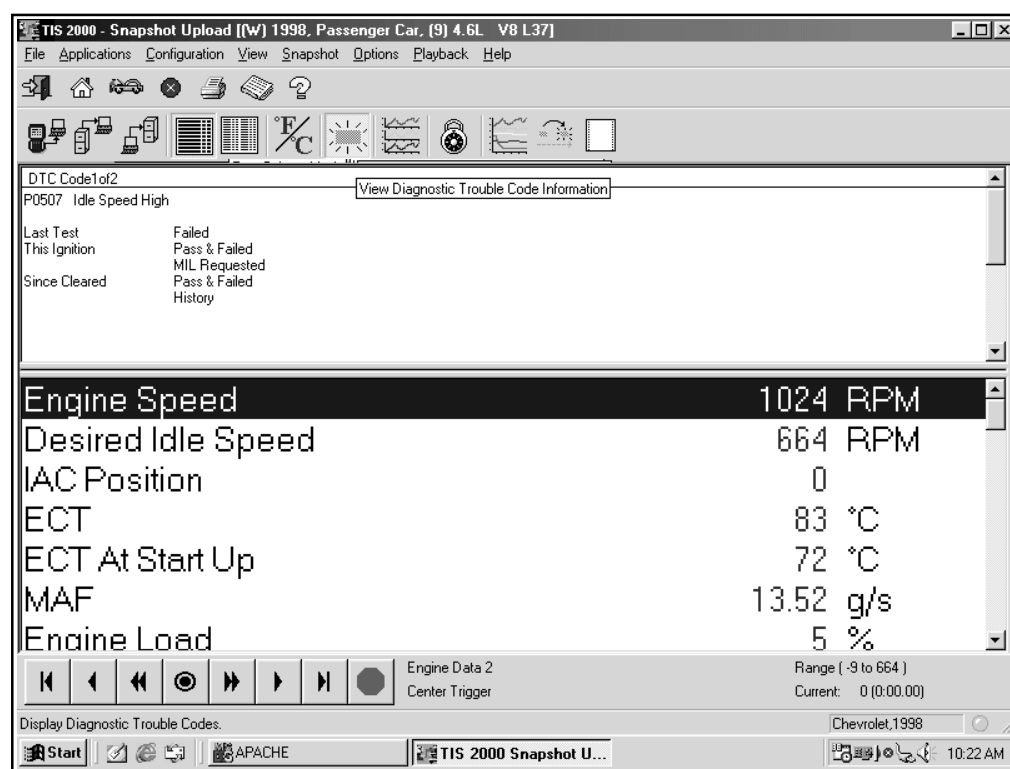

Figure I-67, DTC Display (1 of 2)
1. Select on the DTC icon in the toolbar. A box will appear near the top of the screen listing DTC information (Figure I-67). The following information is provided: